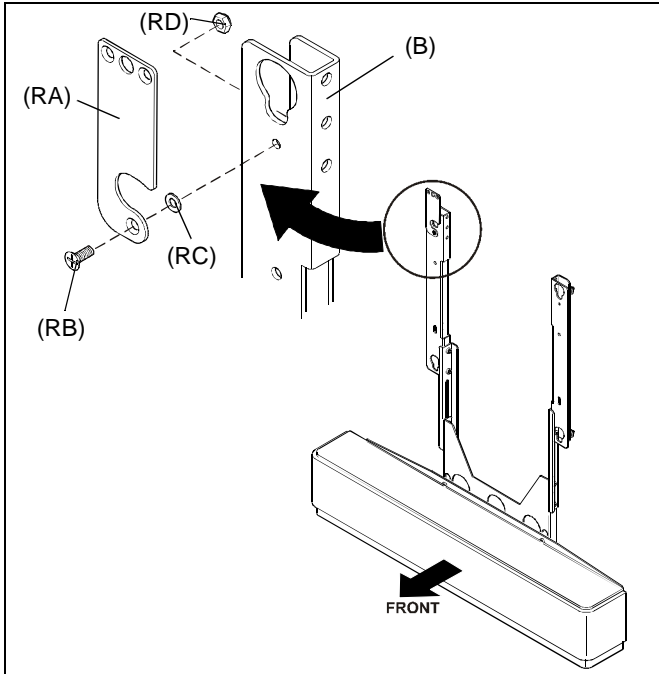

Figure 8
1. Assemble one Phillips machine screw (RB) through latching flag (RA) and spacer (RC). (See Figure 8)
2. Secure latching flag to left speaker mounting support (B) using one Nylock nut (RD). (See Figure 8)